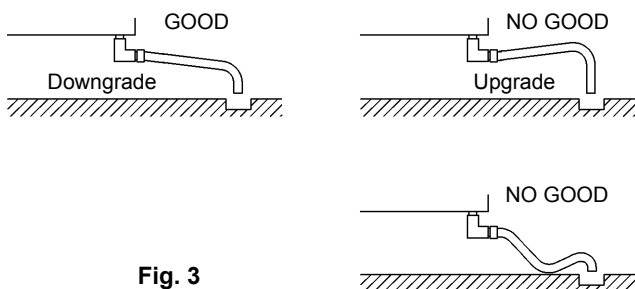

Fig. 3
- \* To prevent a backflow into the Storage Bin, the outlet hose must be laid as shown in Fig. 3.